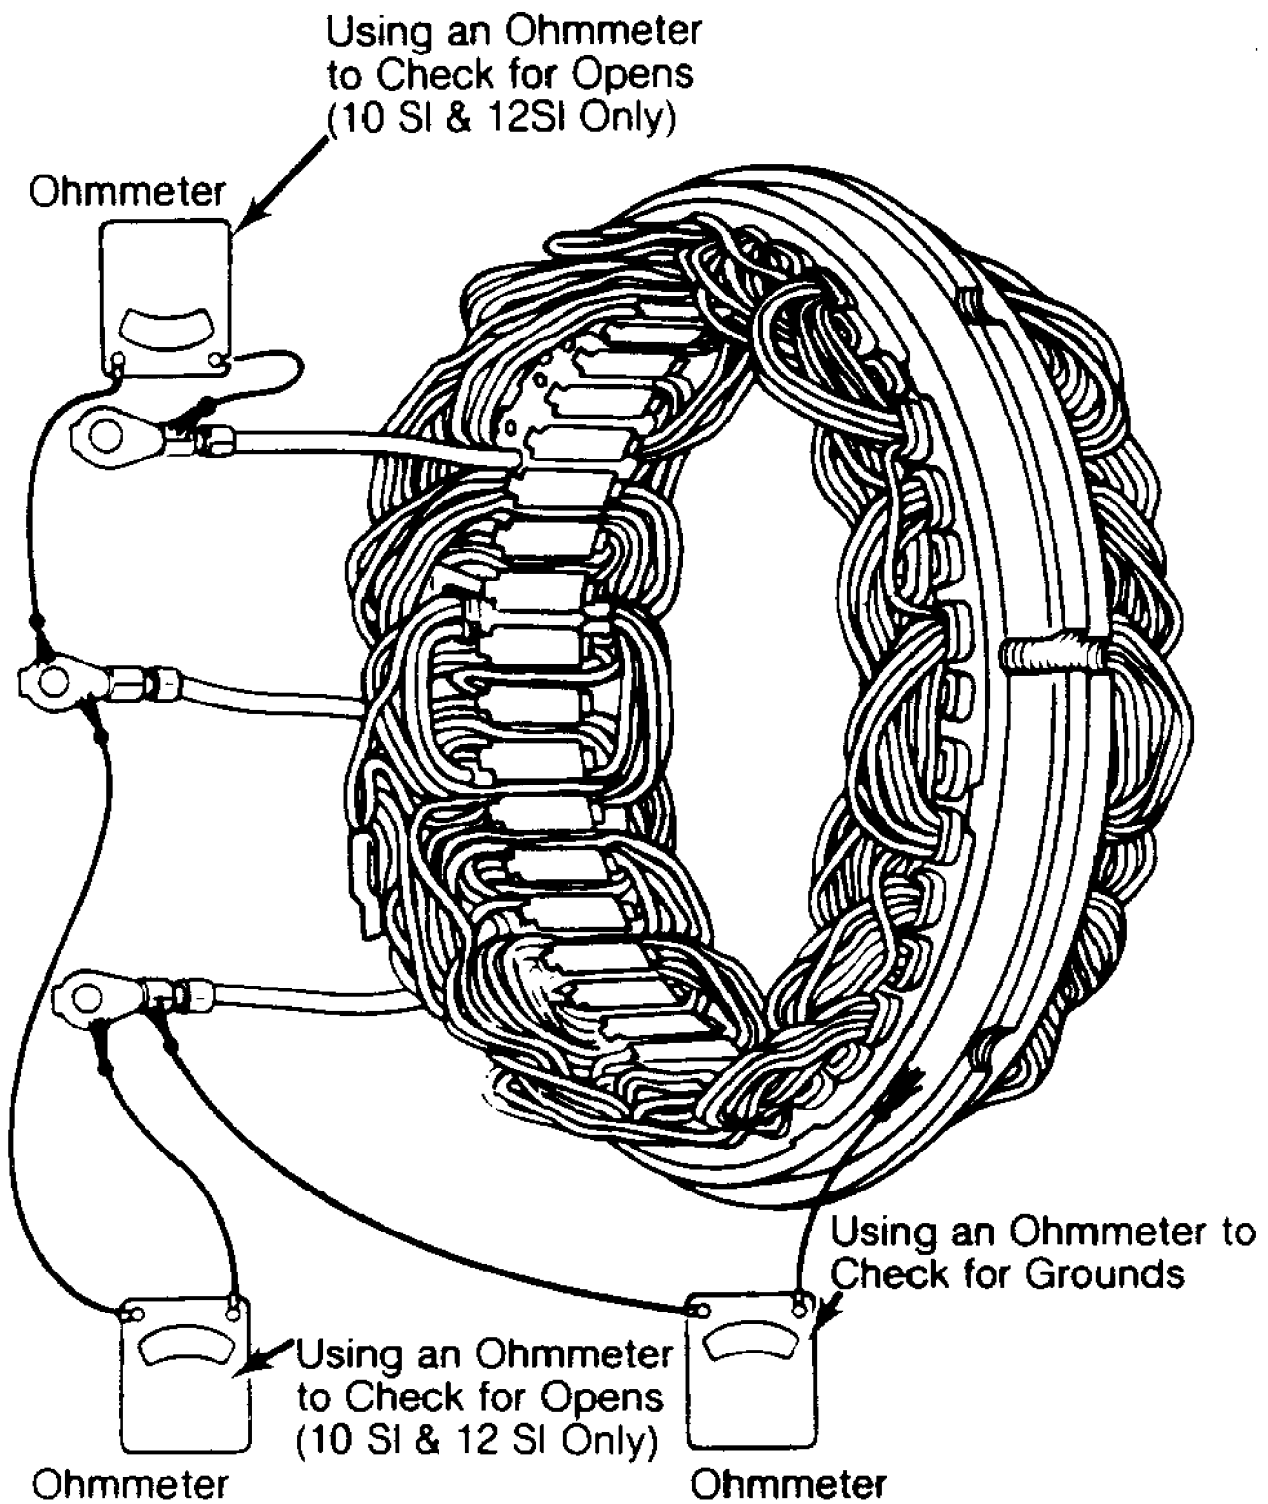

Fig. 3: Testing Stator for Open or Grounded Circuits
1) For 12SI series alternator, measure resistance between stator leads. See Fig. 3. If reading is not infinity, replace stator.
2) On all models, connect ohmmeter leads to any stator lead and to stator frame. Ohmmeter reading should be infinity. See Fig. 3.